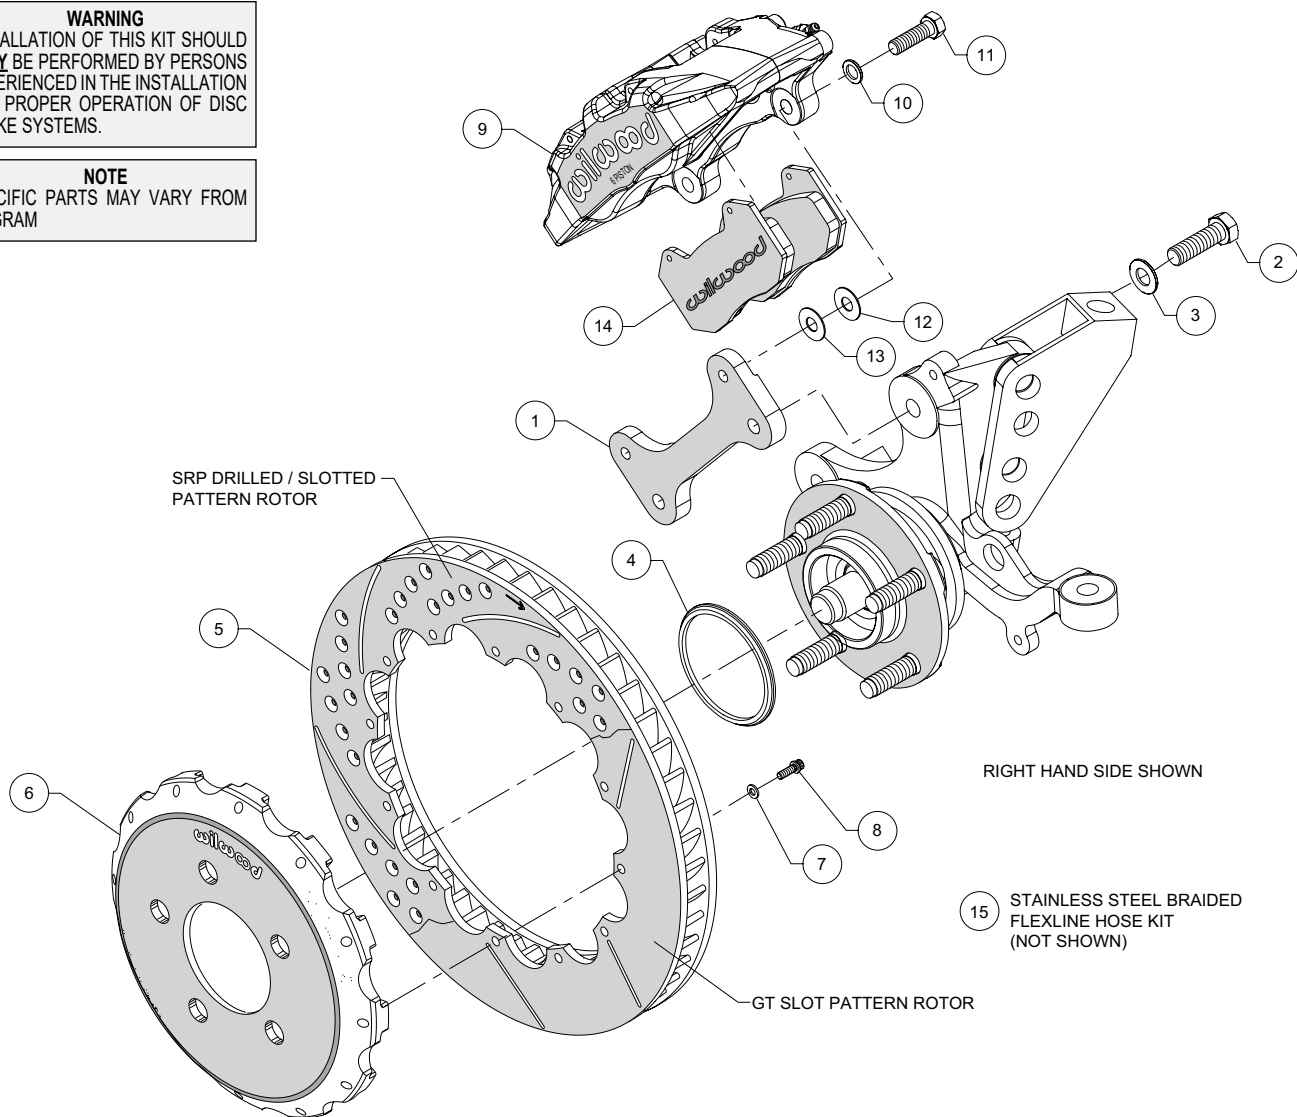
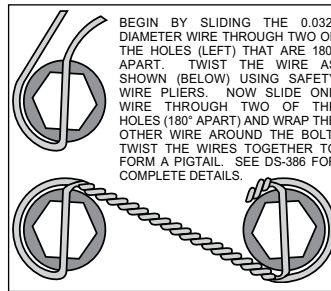

Figure 1. Typical Installation Configuration
Figure 3. Safety Wire Diagram
NOTE: Numbers in parenthesis refer to the parts list and Figure 1 on the preceding pages.
- Orient the caliper mount bracket (1) as shown in Figure 1 and Photo 1, and install using bolts (2) and washers (3). Temporarily tighten the mounting bolts. **NOTE:** The bracket must fit squarely against the mount bosses on the upright. Inspect for interference from casting irregularities, machining ridges, burrs, etc. Remove bolts one at a time, apply red *Loctite*® 271 to the threads and torque to 60 ft-lb.
- Orient the rotor (5) and the hat (6) as shown in Figure 1 and Photo 2. Attach rotor to hat using bolts (8) and washers (7). Apply red *Loctite*® 271 to the bolt threads and torque to 155 in-lb using a criss-cross pattern. For an added measure of security, the bolts may be safety wired using standard 0.032 inch diameter stainless steel safety wire as shown in Figure 3. Please refer to Wilwood's data sheet DS-386 (available at www.wilwood.com/Pdf/DataSheets/ds386.pdf) for complete safety wire installation instructions.
- NOTE:** This kit contains distinct right and left hand calipers that must be mounted in a specific direction, as described below. Mount the caliper (9) onto the caliper mounting bracket (1) using bolts (11) and washers (10), as shown in Figure 1. Initially place one each .016" thick shim (12) and .035" thick shim (13) on each bolt between the caliper and the bracket, Figure 1 and Photo 5. Ensure that the caliper is mounted so the largest pistons are at the rotor exit end of the caliper, in relation to the direction of rotor rotation. Temporarily tighten the mounting bolts and view the rotor (5) through the top opening of the caliper. The rotor should be centered in the caliper, Photo 6. If not, adjust by adding or subtracting shims (12 and/or 13) between the bracket and the caliper. Always use the same amount of shims on each of the two mounting bolts. Once the caliper alignment is correct, remove the mounting bolts and caliper.
- Remove the two pad retaining pins from the caliper (9) by carefully popping out the pin retaining clips and sliding out the pins. Insert the brake pads (14) into the caliper from the bottom, Figure 1 and Photo 7, with the friction material facing the rotor. Secure the brake pads in place with the pad retaining pins and clips, Photo 8. Reinstall the caliper onto the caliper mounting bracket. Apply red *Loctite*® 271 to bolt threads (11), and torque to 35 ft-lb.